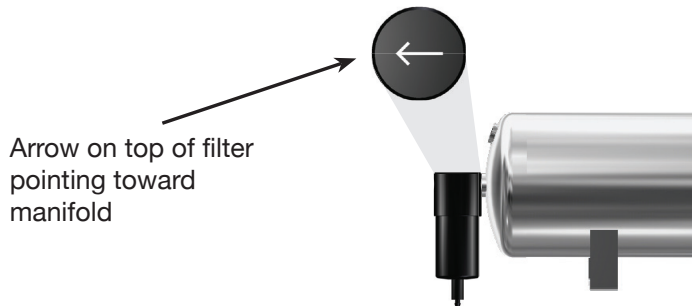

fig. 7
3. The arrow on the filter indicates flow direction and must point toward the manifold. (fig. 7)